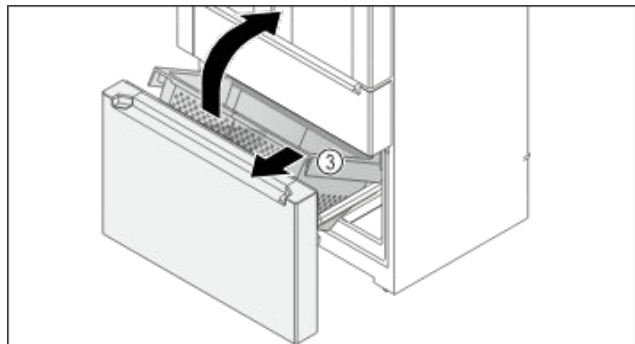

Fig. 152
- ▶ Pull the container Fig. 152 (3) out forwards.
- ▶ Remove the container Fig. 152 (3) diagonally forwards.